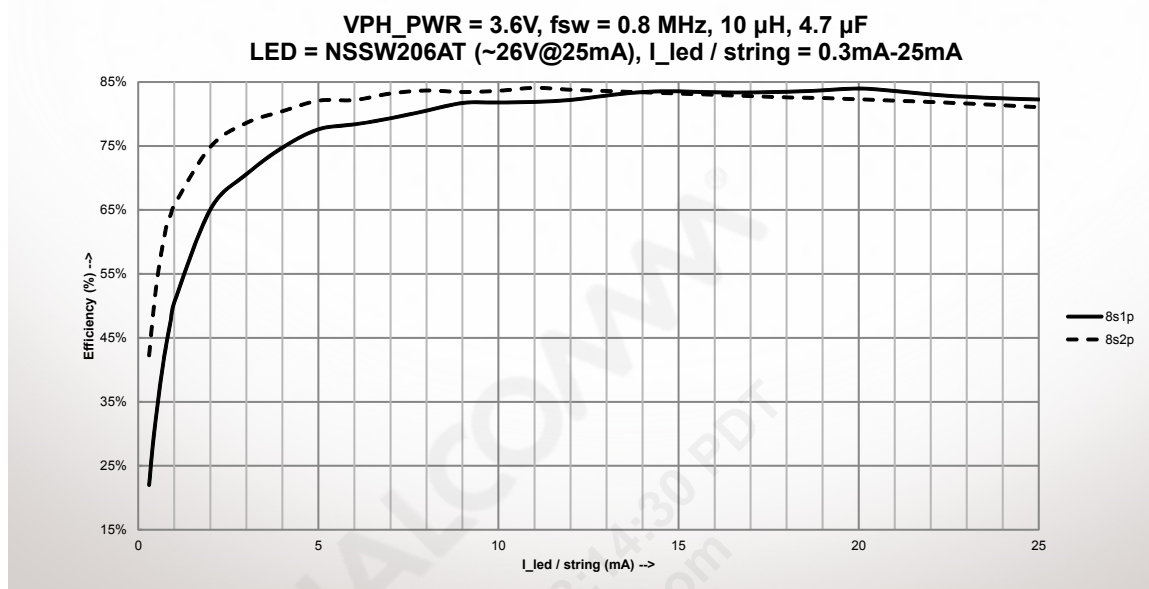

Figure 3-10 WLED efficiency plot on the PM8941 device
2. Figure 3-10 shows the efficiency plot for 8s1p and 8s2p configurations of the WLED boost and driver.